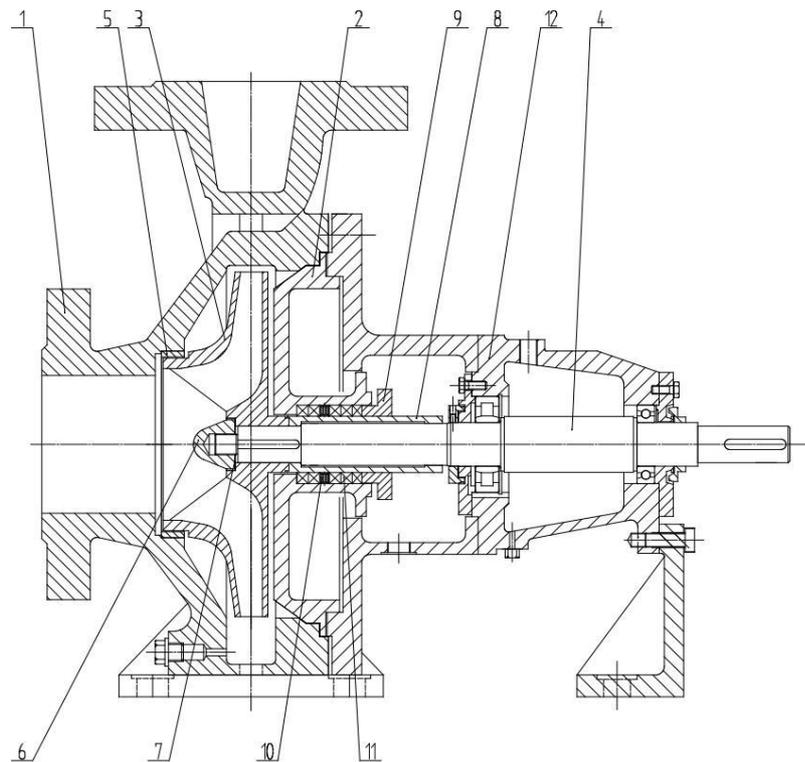

Figure 1
IS type pump is designed with performance and dimensions specified to the International Standard ISO 2858. The major components are casing (1) casing cover (2) impeller (3) shaft (4) wear ring (5) shaft sleeve (8) bearing bracket (12) etc. ( See Fig 1 )